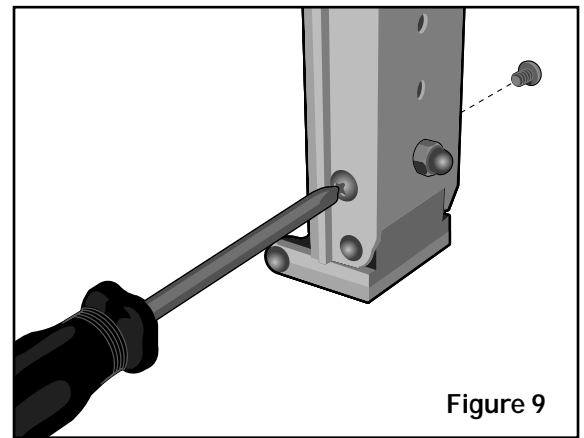

Figure 9
Step 16. Using a Phillips screwdriver, remove the two short screws on each inner arm- see figure 9. Repeat for the other arm.